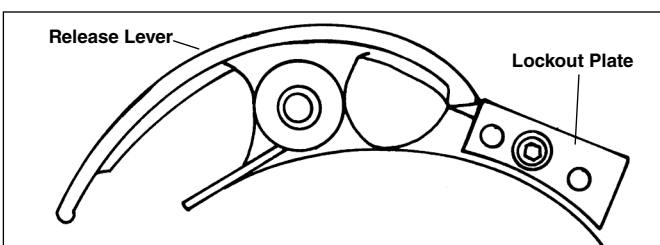

Figure 5 – Lockout Plate Installed
1. Install the lockout plate supplied with the 766 cutter onto the 714/914 diehead. This lockout plate has three holes. Install with the bolt through the middle lockout plate hole (See Figure 5).
3. Cock the die head. Release lever should be positioned as shown in Figure 5. This retracts the dies so they do not damage the plastic liner while positioning the diehead to the pipe.